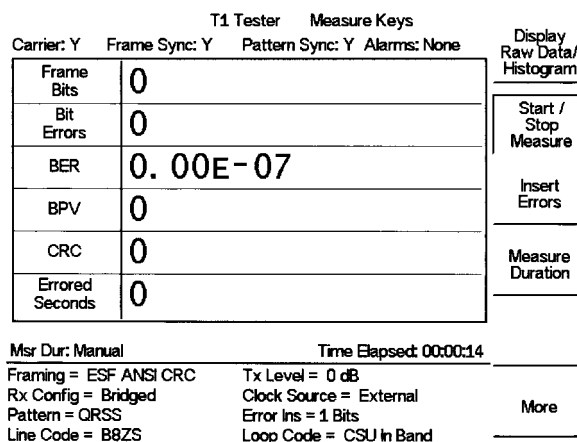

Figure 7-5. T1 BERT Measurement Display
- Step 2.** Press the Measure Duration soft key and use the Up/Down arrow key to select the duration of the measurement, and press **ENTER**. Figure 7-5 shows the T1 measurement display.